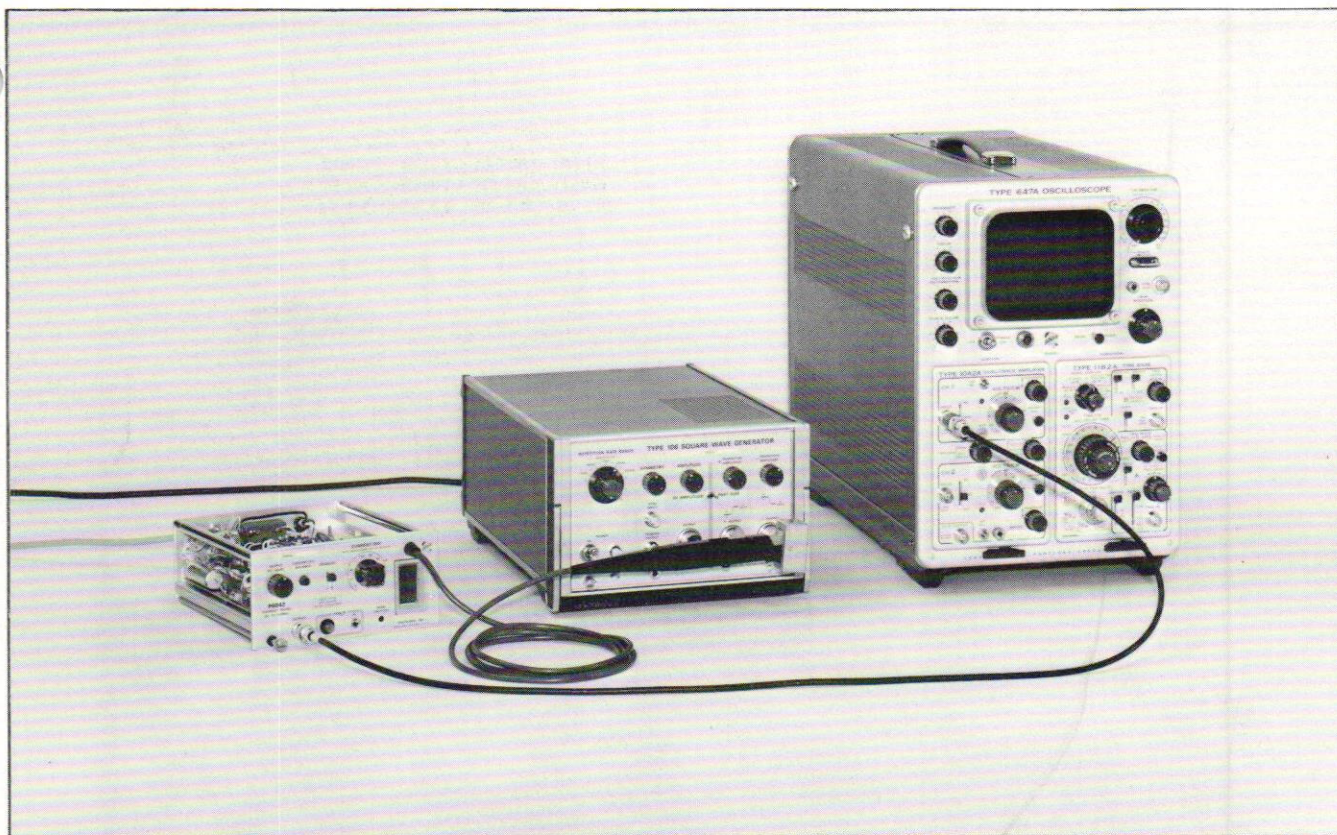

Fig. 6-16. Test setup for step 14.
c. Connect the current loop to the square-wave generator —Transition output. Connect the probe to the current loop. See Fig. 6-16.